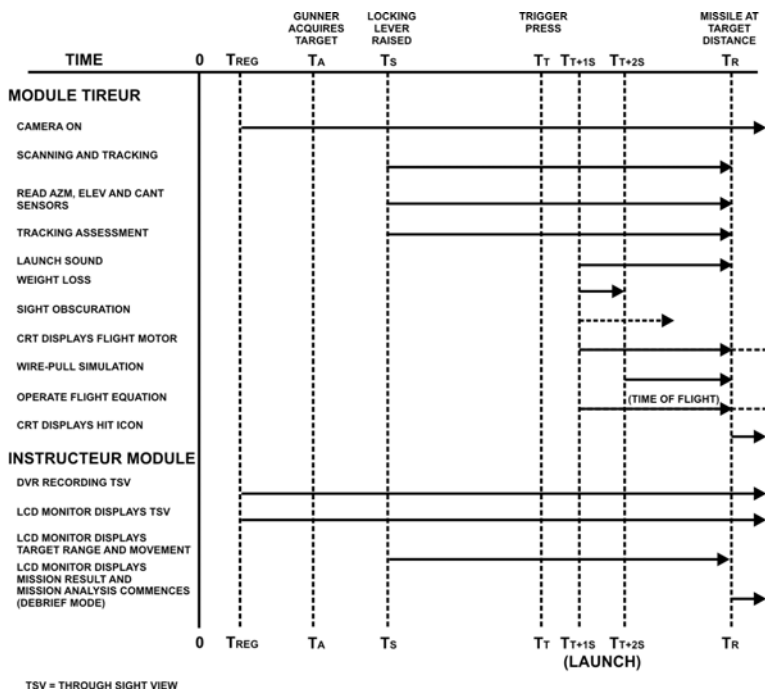

Figure 5-9: Operational Mission Sequence Timing Diagram
on the IM keypad is pressed (see Figure 5-9).
- (2) Pressing the REC key causes the gunner's through-sight-view (TSV) to be displayed on the IM. At the same time, the DVR in the IM begins collecting and storing the gunner's TSV, in RAM. The instructor will at this point (time TREC in Figure 5-9) give the order to the gunner to acquire and track the target.
- (3) After the gunner has acquired the target (time TA) the gunner arms the FSS by raising the safety catch (time TS). This causes the scanner in the GM to begin searching for the target. From this point, movements of the firing post in azimuth, elevation and cant are monitored to allow scanning and tracking to be stabilized.
- (4) A target is sensed when the scanner detects laser pulses reflected back from the TSS on the target vehicle. Target range, position and velocity are determined for subsequent scans and (following launch) the PPA calculation. Range, position and velocity are also reported regularly to the instructor as a text overlay on the IM display. As tracking commences, the GM computer begins to assemble the gunner's tracking performance data.
- (1) The gunner presses the trigger button after the target has entered the arc of fire, when ample tracking margins exist to either side (time T_T in Figure 5-9). When the trigger button is pressed, the simulated firing sequence is started.
- (2) Approximately 1 second after the trigger button is pressed (time T_{T+1s} in Figure 5-9) the GM computer does the following:
- (e) two seconds after trigger press (time $T_t + 2s$ in Figure 5-9) the GM computer commences physical wire-pull simulation.
- (1) Comparing the gunner's current point of aim with the current PPA.
- (2) Modelling the missile in flight and control CRT image display in the gunner's sight.
- (3) Feeding azimuth, elevation and cant movements of the firing post into the missile flight equation to control the missile.
- (4) Determining the target velocity in azimuth, elevation and range and hence determining